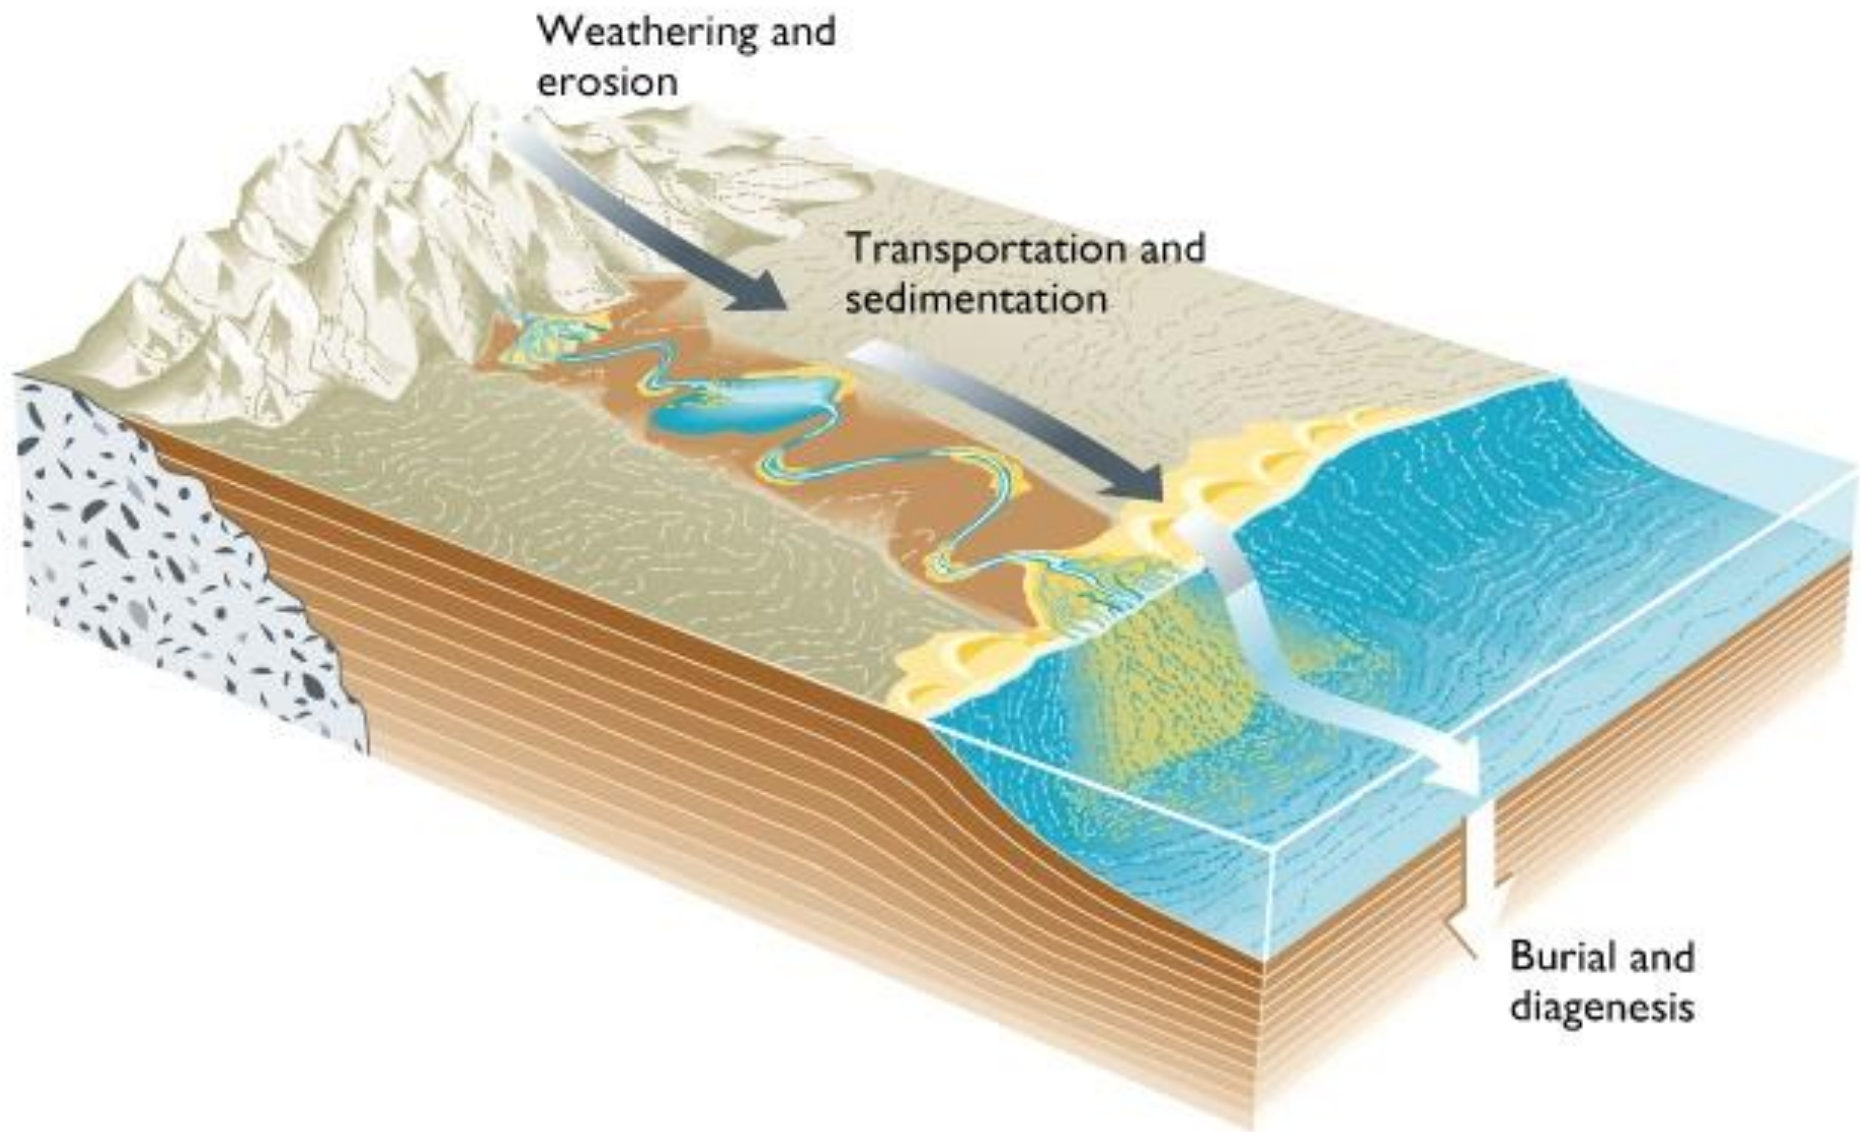

Figure 3: Sedimentary Stages in the Rock Cycle
- **Erosion**- its abrasion and collapse of rock mass to a smaller particles . Fig. 3
- **Transportation**- movement of sedimentary particles from place to place inside any medium (water, wind, glacier) . Fig. 3
- **Deposition (sedimentation)** – its settlement of particle in any environment to be stable in it . Fig. 3
- **Burial**- remain of sediment under the compaction of other above layer during the geological period to be lithified. . Fig. 3
- **Diagenesis**- any chemical or physical change after lithification (dolomitization , solution , cementation) . Fig. 3
- **Weathering**- climate influence on sediment exposure after uplifting to be the land. .Fig. 3